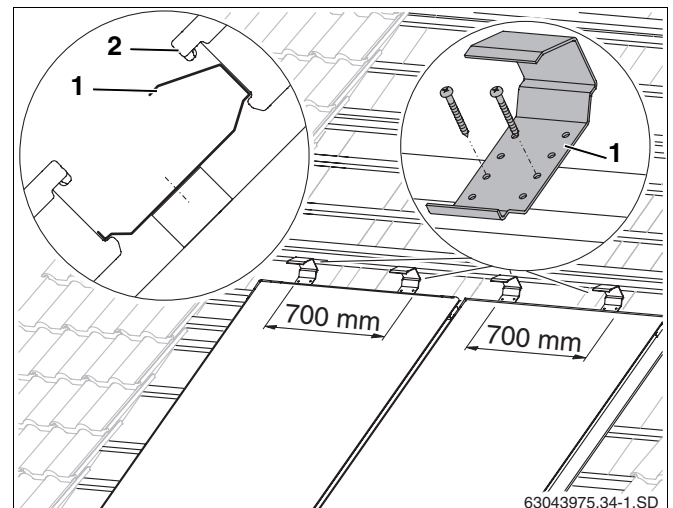

Fig. 31 Anti-slip protection devices for the second collector array
- ▶ Put two anti-slip protection devices (Fig. 31, **Item 1**) per collector, halfway along (700 mm apart) over the lower collector onto the fourth additional batten on the lower row, and fasten with two 4x40 screws.
- ▶ Allow the collectors in the upper row (Fig. 31, **Item 2**) to slide against the anti-slip protection devices and align with the lower row.